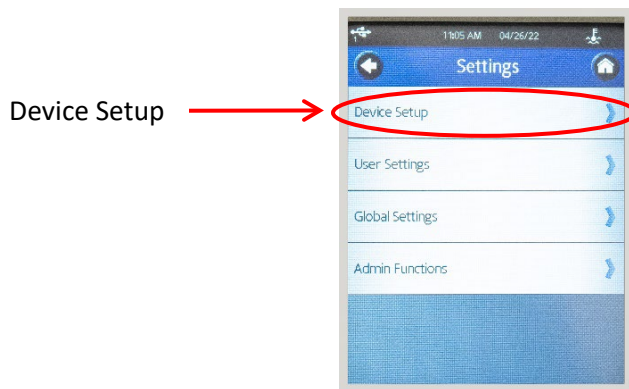

Figure 56: Settings Menu
5. Press the **Device Setup** button. See Figure 56.